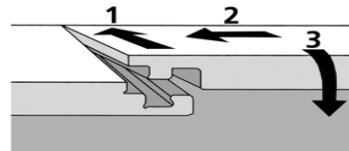

Fig.4
- Fold and place the end joint in the locking position, ensure that the joints are flat and free of damage or debris. (Fig.4).